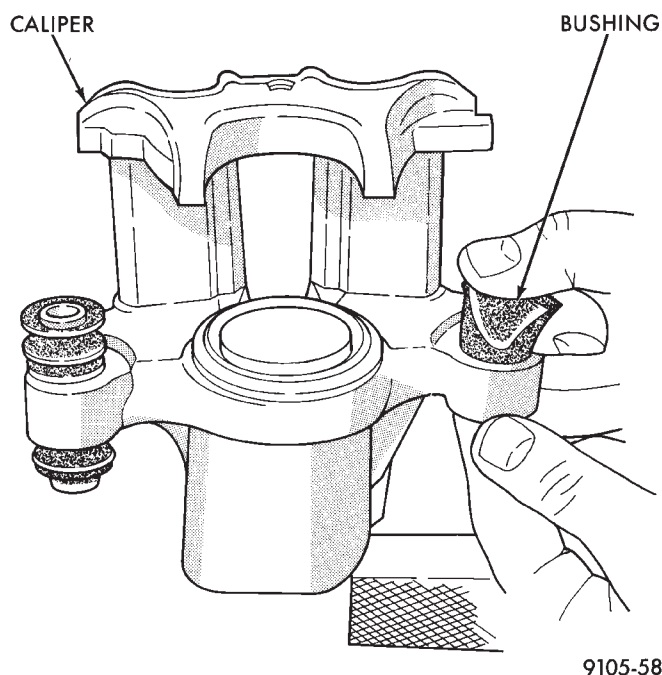

**Fig. 154 Removing Bushing From Caliper**
(3) Using your fingers, collapse one side of the bushing. Then pull on the opposite side to remove the bushing from the brake caliper housing (Fig. 154).